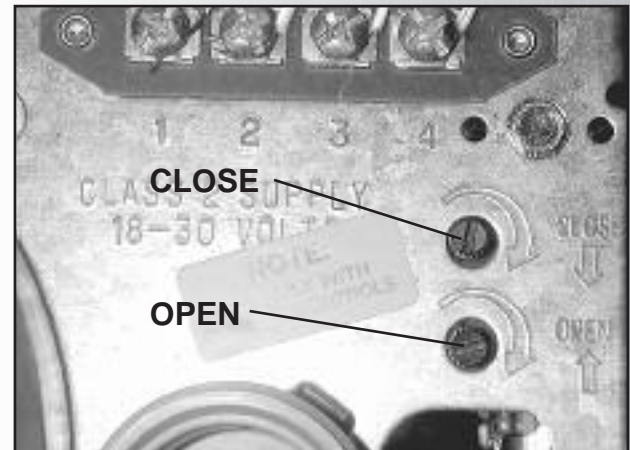

Fig. 7-2
- On front panel of power head—find adjusting screw marked “CLOSE.” **Fig. 7-2.**
- On front panel of power head—find adjusting screw marked “OPEN.” **Fig. 7-2.**